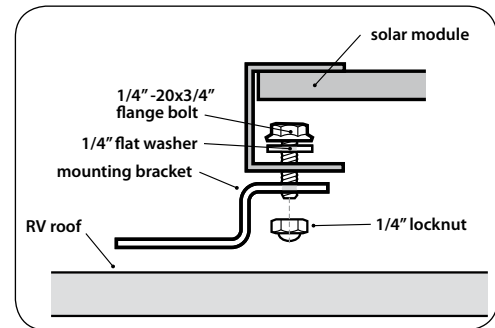
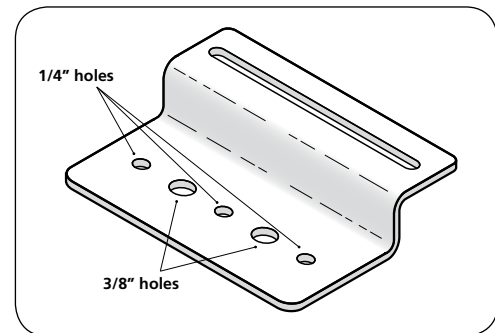

Fig. 7.1. Attaching solar panel to 5-hole mounting bracket.
Fig. 7.2. 5-Hole Mounting Bracket.
2. Fix the mounting brackets (Fig. 7.2) to the frame of the previously positioned solar panel using the slotted opening and the 1/4”-20 x 3/4” Flange Bolt, Nylon Locknut and flat washer (Fig. 7.1).
5. The centre and end holes on the mounting brackets (Fig. 7.2) are sized to accept the 1/4” hardware supplied with the unit. If the use of larger sized hardware is desired, 3/8” holes can be used.